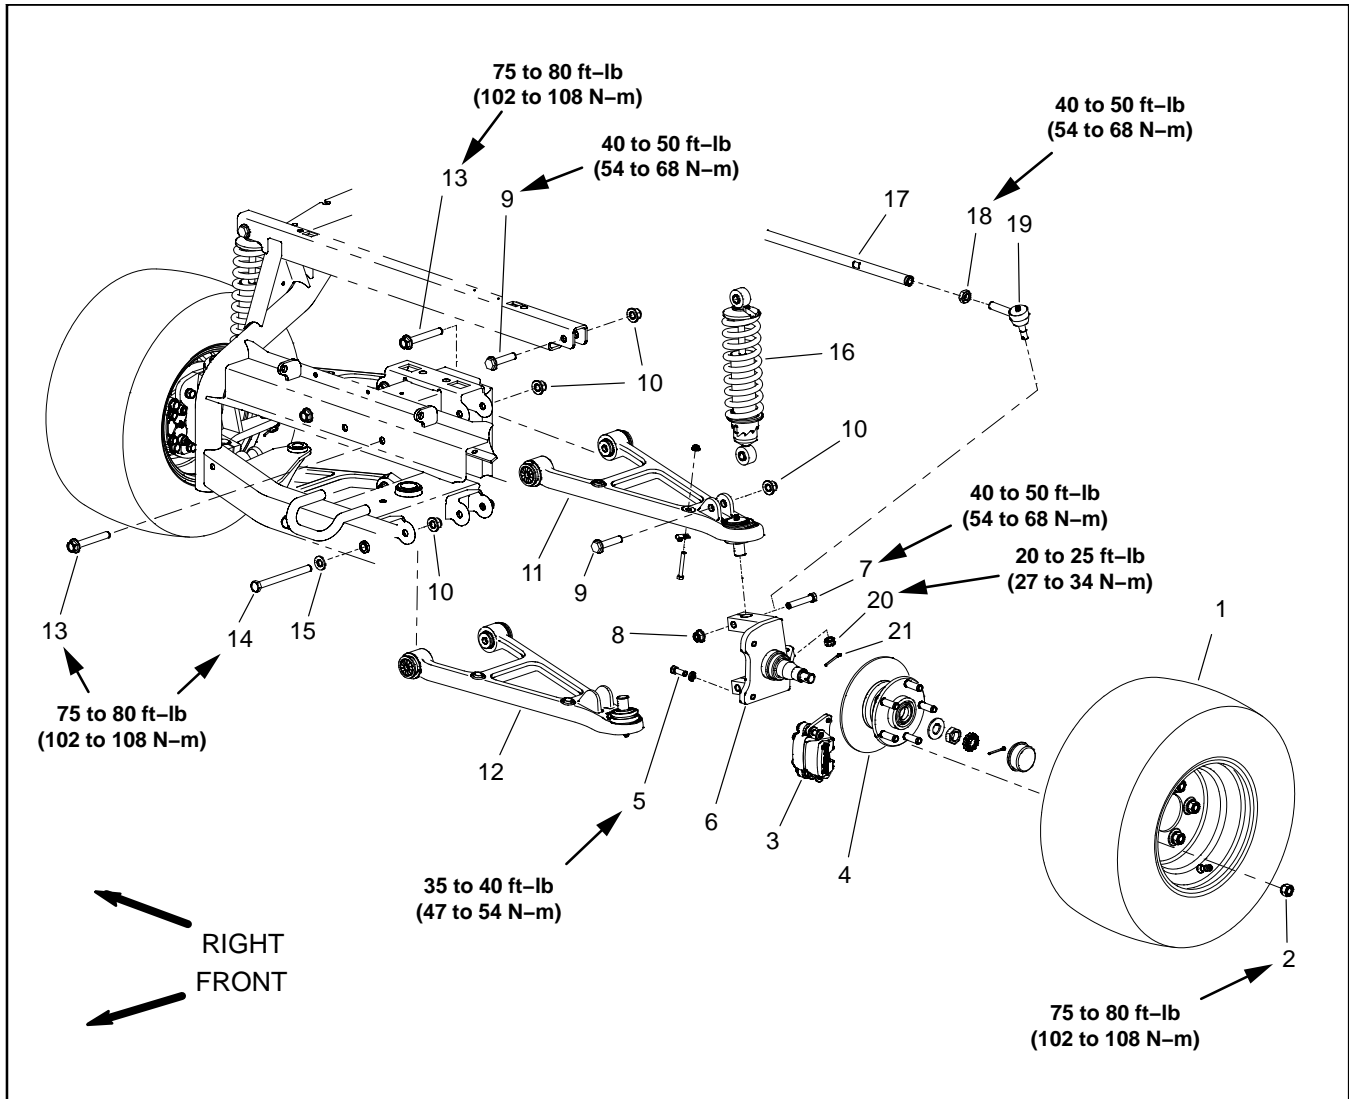

Figure 17
1. Assemble wheel hub (Fig. 17):
Disassembly (Fig. 17)
Assembly (Fig. 17)